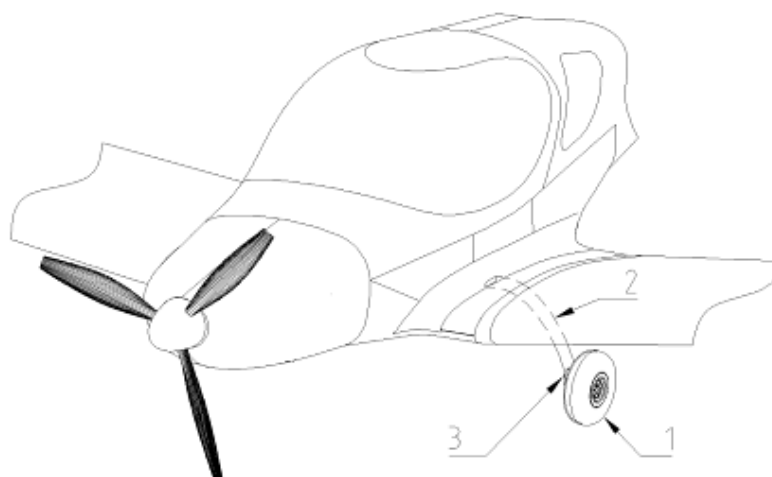

Fig. 8-1
The main landing gear (see Fig. 8-1) consists of the composite landing gear legs (2), wheel axle and wheel (1) equipped with disc brakes (3). The landing gear legs are inserted in the gear channel under the seats, where they are attached by two bolts (4) and stirrup (3) (see Fig. 8-7).